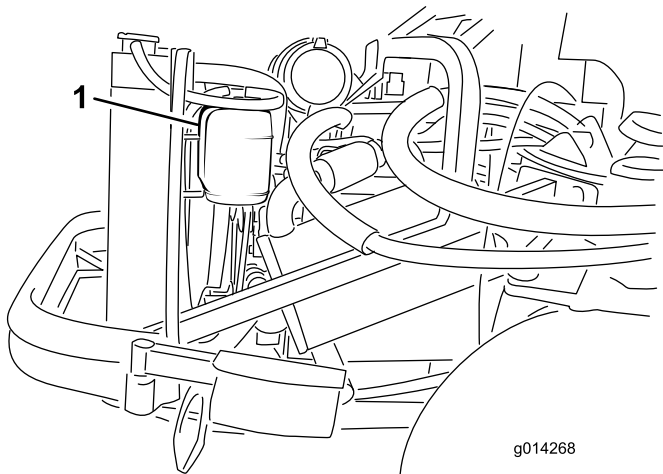

Figure 81
1. Check the level of the coolant in the expansion tank (Figure 81). The coolant level should be between the marks on the side of the tank.